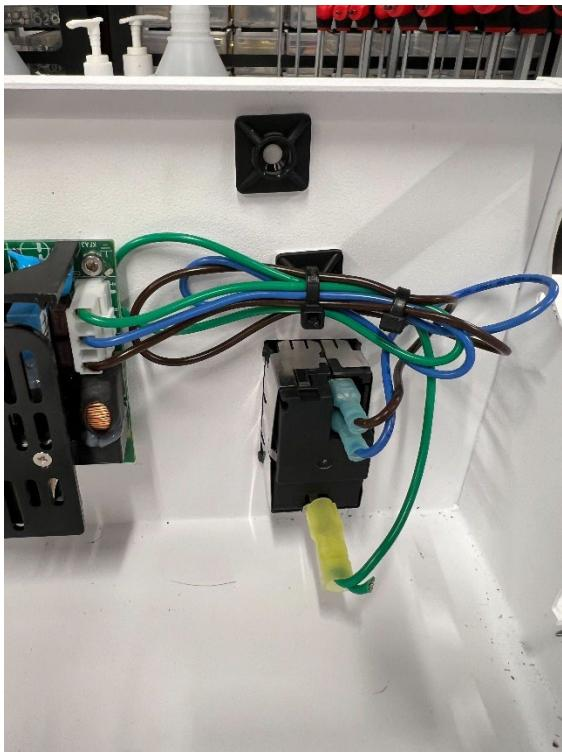

Figure 8: Electrical Connection from the AC Power Input Module to the input of the DC Power Supply
4. Prepare 3 wires of 3 colors: Blue, Brown, and Green, of at least 18AWG. One end of each wire should be crimped with quick tab connections, while the other end should be crimped with SVH-21T-P1.1 crimps and placed into the mating connector (part # VHR-5N) for the AC/DC power supply header. The wire colors are coded as such: Brown – Hot; Blue – Neutral; Green- Ground. Connect the quick-tab ends onto the Power Input Module (refer to the labels on the module for each connection). Then plug in the connector to the header on the AC/DC power supply. The connection is shown in Figure 8.